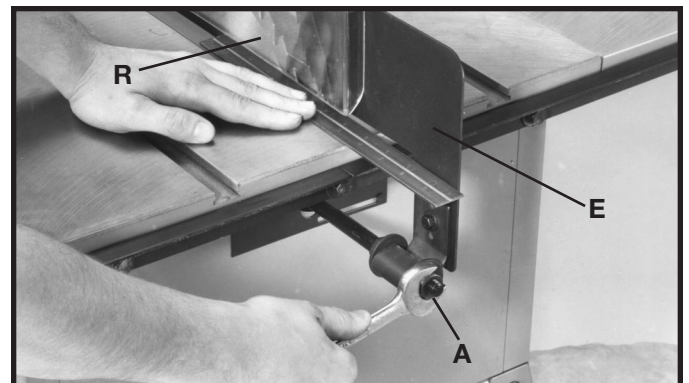

Fig. 29
11. Using a straight edge, check to see if the splitter (E) Fig. 29, is aligned with the saw blade (R). If an adjustment is necessary, the splitter (E) can be moved left or right and rotated by loosening nut (A) Fig. 29, and adjust accordingly.